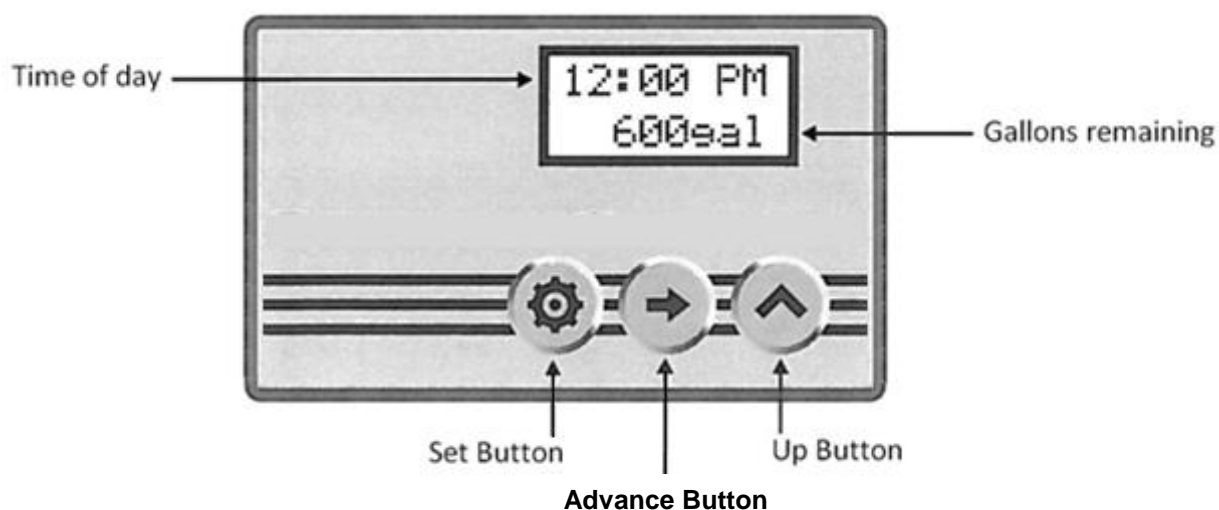

FIGURE 4: Front of Electronic Meter Timer
- STEP 8:** Plug the transformer into an un-switched electrical outlet and attach the power cord into the control valve. Then press and hold down the center “ADVANCE” button for 5 seconds and release after “GO TO BW” appears on the screen (See Figure 4, page 7). Wait until the valve reaches the backwash position (a countdown timer will be displayed) and unplug unit from electrical outlet.
- STEP 14:** Set the current time of day on control valve (note AM and PM) (refer to Figure 4, page 7).